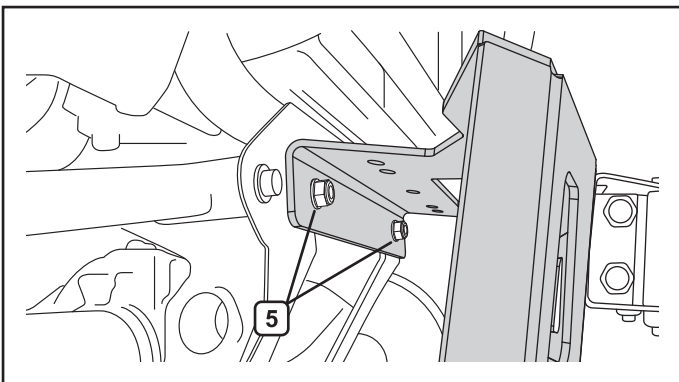

Figure 6.
5. Install the winch mount (A) with two bolts (5) removed in step 2 as shown in figure 6.